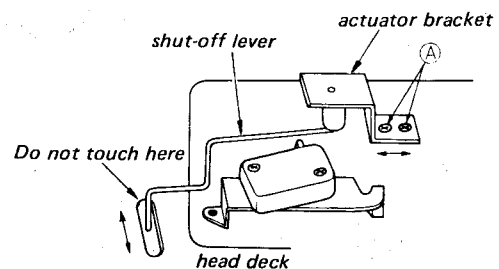

Fig. 5-1-1. Automatic shut-off switch adjustment (1)
2. Make sure that the shut-off lever does not touch the head deck when pushing it by the hand. See Fig. 5-1-1.
4. Place the head deck in a normal position. See Fig. 5-1-1.